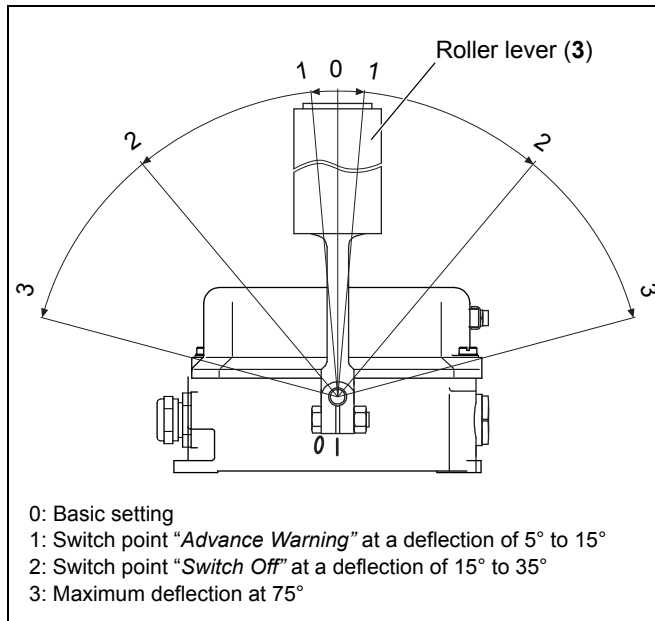

Fig. 5-9: Belt misalignment switch - switch points (adjustable)
8. Check the gasket (23) of the cover (2) for damage.
9. Close the cover (2) of the belt misalignment switch.
10. Secure the cover (2) with the screws (5) (see fig. 5-9).
3. Adjust the switch point 1 (advance warning) (see figures 5-9 and 5-10):